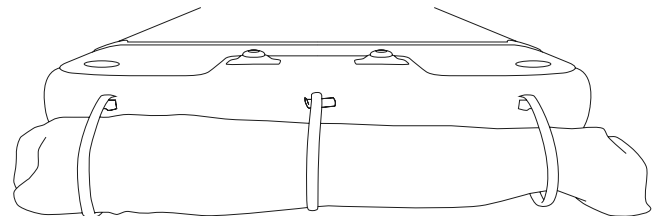
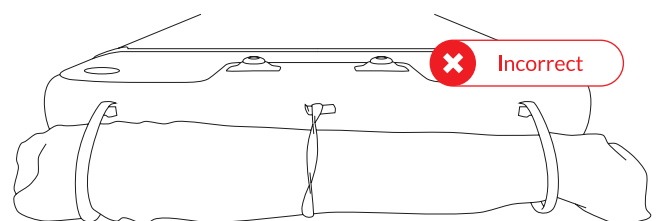

Fig 14 – Feed Air Toggle through loops
Fig 16 – Do not twist Air Toggle loop
3. Feed the Air Toggle into the chosen open Air Toggle loops (Fig 14) ensuring the Air Toggle loop isn't twisted (Fig 16).
5. Check that the Air Toggle is in place (Fig 14)